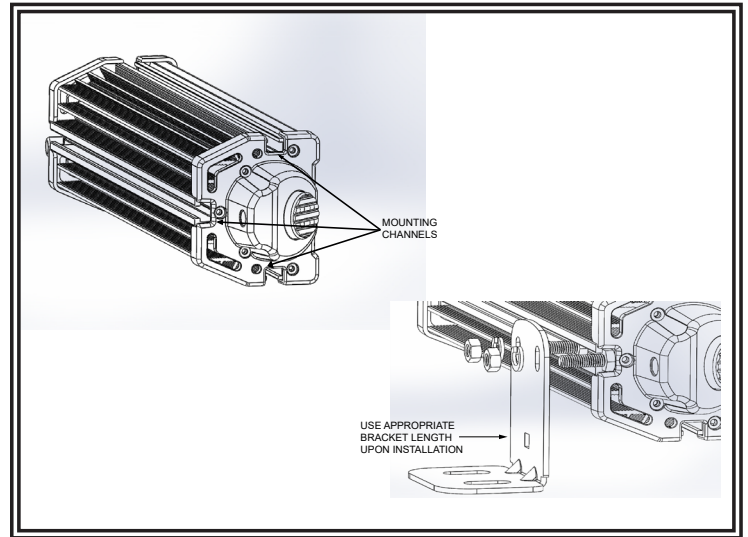

Figure 1
1. Insert the hex head bolts into the channel that best fits the position that the product will be mounted and loosely assemble the bracket onto the light as shown in Figure 1.